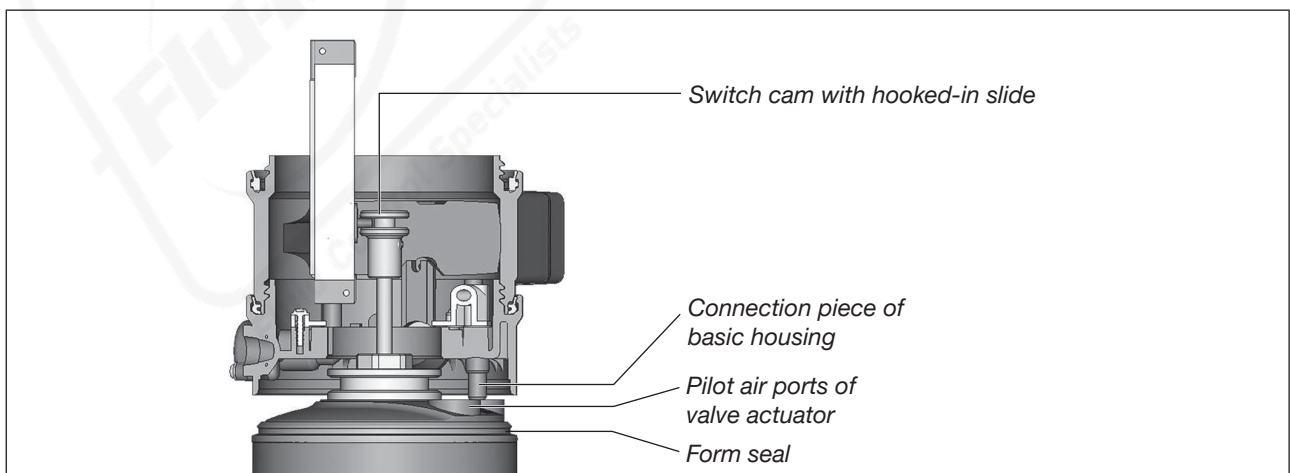

Figure 12: Aligning the position sensor with the actuator
- Align the connection piece of the basic housing with the pilot air ports of the valve actuator (see “Figure 12”).